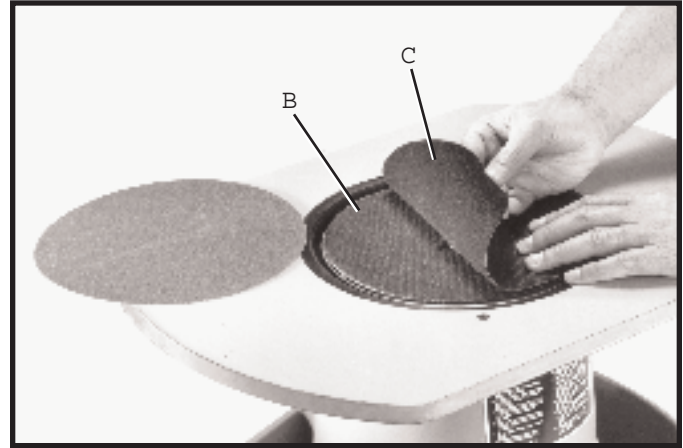

Fig. 5
1. **IMPORTANT:** If you are using the pressure sensitive adhesive-backed abrasive disc, you must first apply transition pad (C) Fig. 5, to disc plate pad (B).